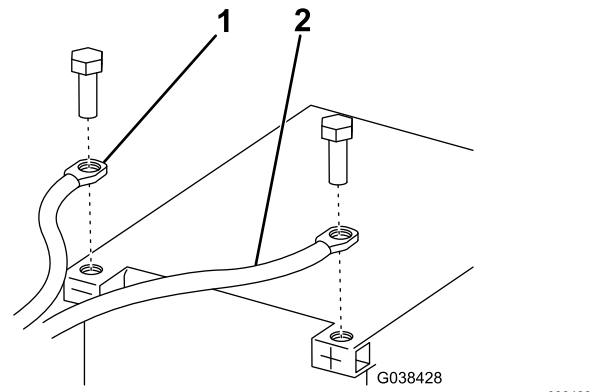

Figure 9
- 14. Connect the red power/ground cable to the positive (+) battery terminal (Figure 9).
- 13. Connect the black power/ground cable to the negative (-) battery terminal (Figure 9).